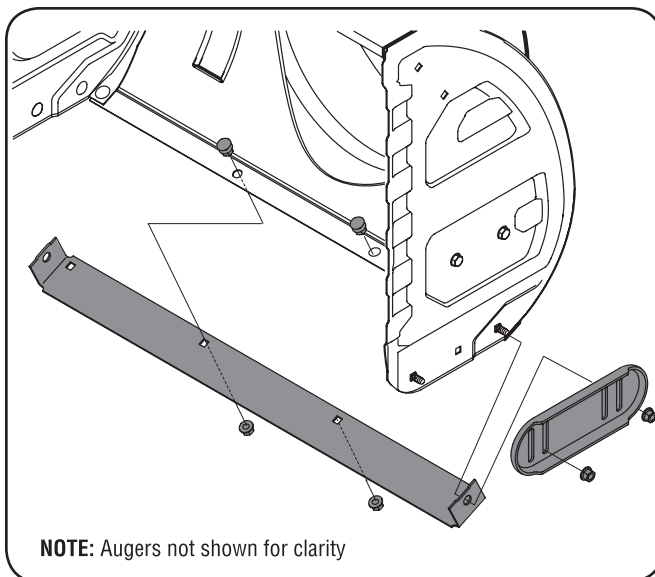

Figure 6-1
2. Reassemble new skid shoes with the four carriage bolts (two on each side) and hex flange nuts. Refer to Fig. 6-1.